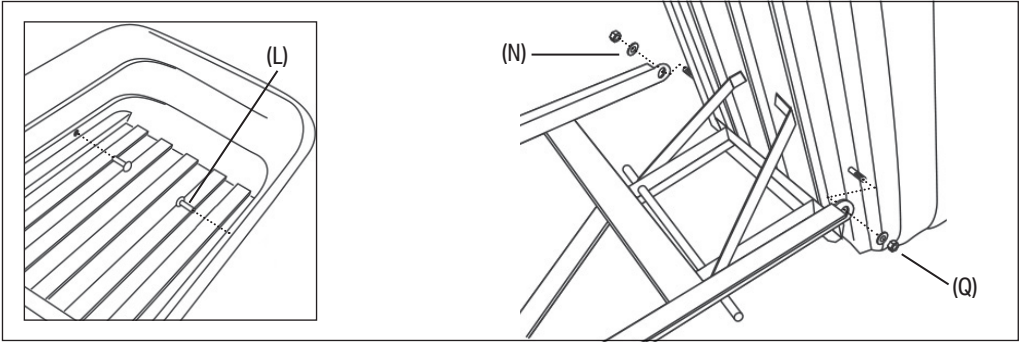
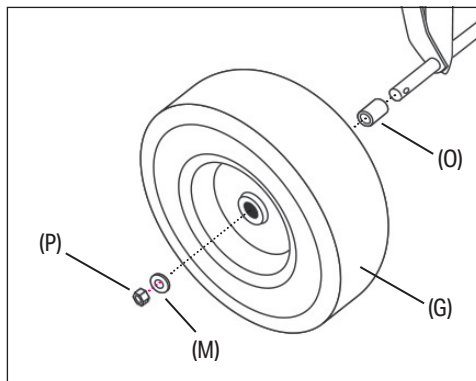

Fig. 4
Fig. 5
4. Attach the base frame assembly to the hopper- Fig 4:
- b. Pass two M8 x 20mm round-headed bolts (L) outwards through the sides of hopper, base bracket and base frame assembly and secure each bolt in place with an M8 washer (N) and an M8 nylon-insert lock nut (Q).
- c. If necessary, pull on the lock assembly handle (F) to allow the base frame to fall into place, then release the handle to lock it into position.
5. Attach the wheels - Fig. 5:
- a. Place an M16 x 7mm spacer (O) and then a wheel (G) onto each axle, ensuring that the wheels' axle sockets extend inwards.
- b. Place an M12 washer (M) onto each axle and secure the wheels in place using the four M12 nylon-insert lock nuts (P).